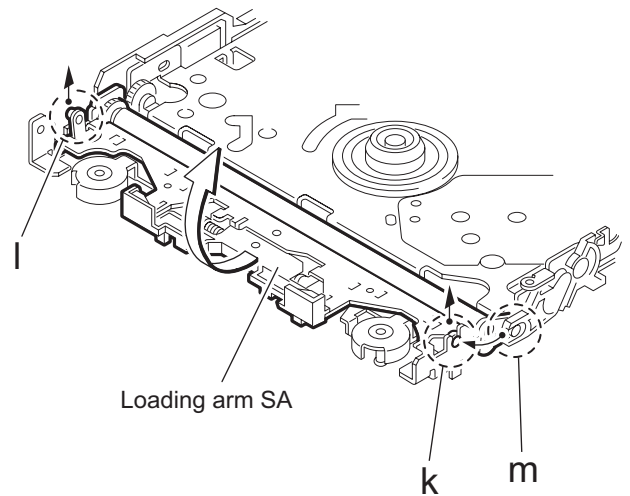

Fig.13
3.2.7 Removing the loading arm S.A. (See Fig.13, 14)